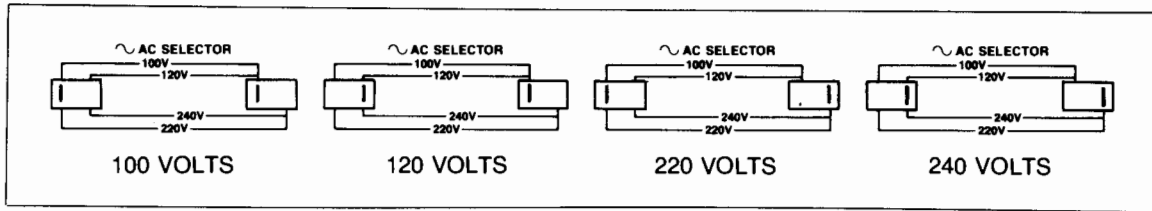

Figure 1-2. 9135A Line Voltage.
1. Check the switches labeled "AC SELECTOR" (on the rear panel) to be sure they are in the proper position for the power line voltage in your area. If it is necessary to change the switch position, slide the switches right or left to set the correct voltage (refer to figure 1-2).